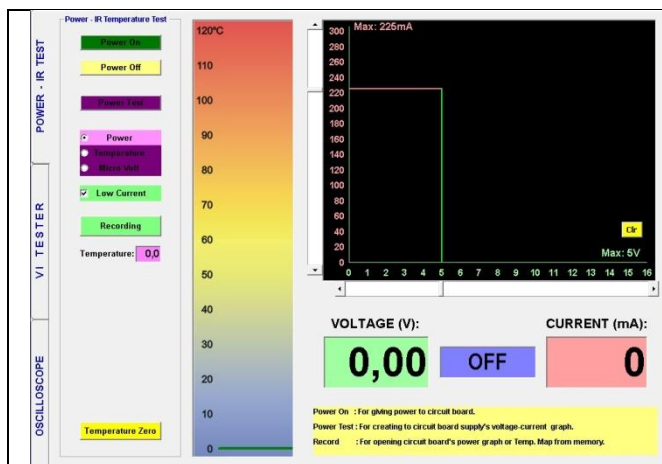

Figure 43: Adjusting the Voltage and Current (Step 1)
1. The maximum operating Voltage and Current of the circuit is adjusted using the scroll bars. (Figure 43)